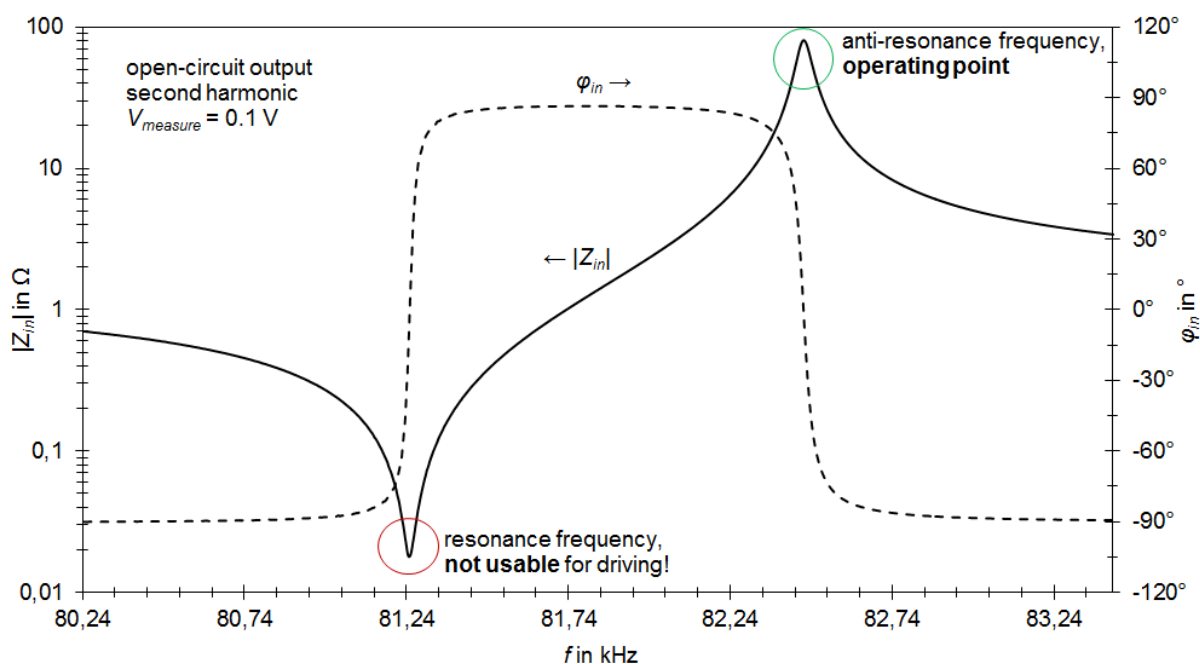

Fig. 2. Typical input impedance around 2nd harmonic at open-circuit output ($V_{\text{in}} = 0.1 \text{ V}$, no plasma).
The CeraPlas™ HF has its first resonance around 41 kHz. It is designed to be driven at its 2nd harmonic around 82 kHz, shown in detail in Fig. 2.
1. Input power approximately < 1.5 W: As shown in Fig. 2 the CeraPlas™ HF has to be driven at anti-resonance frequency, hence maximum impedance, corresponding to 0°.